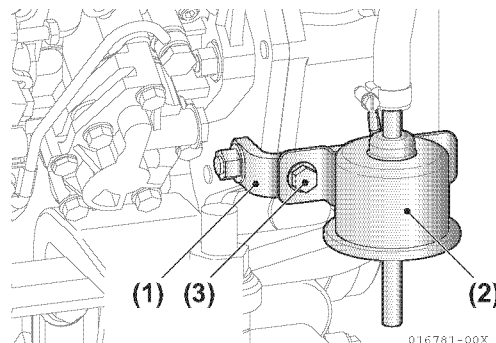

Figure 5-199
70. Install the fuel feed pump and bracket (Figure 5-199). Install the bracket and the fuel feed pump to the cylinder block by bolt.